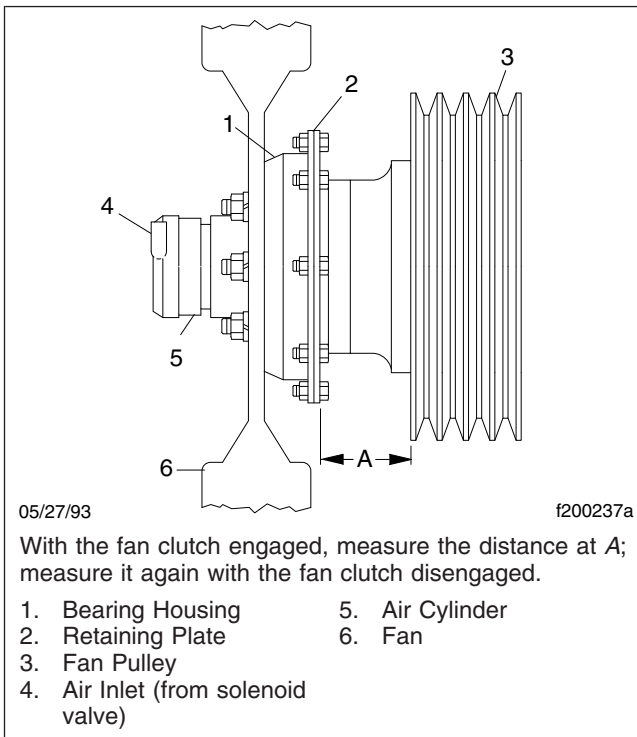

Fig. 7, Kysor K22RA Fan Clutch Lining Wear Check
- 2. Measure the distance from the back surface of the fan clutch retaining plate to the forward-most edge of the fan belt pulley. See Fig. 7, Ref. A.